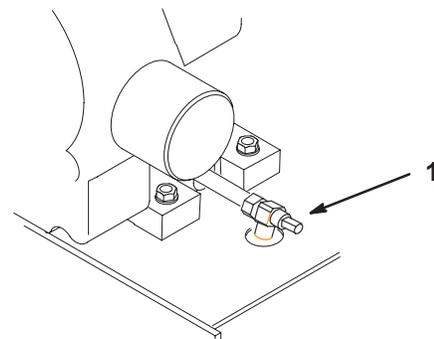

Figure 35
3. Place a pan below the oil drain. Use either a flat screw driver, 3/8 inch or 10 mm wrench to open valve (Fig. 35).
4. Rotate valve end clockwise to close valve. Rotate valve end counterclockwise to open valve (Fig. 35).